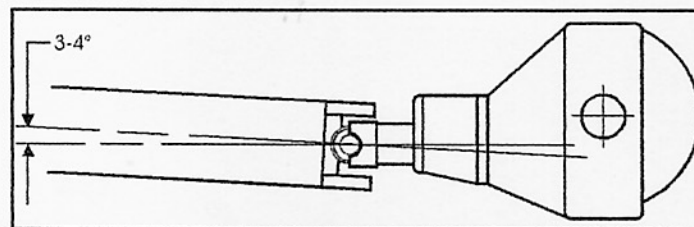

Figure 3
22...Adjust the both lower 4-link bars to check and adjust the wheelbase for length and squareness. Use the driver side upper 4-link tube to adjust the pinion angle to 3-4° down compared to the drive-shaft. It may be necessary to check the wheelbase again after setting the pinion angle because one will affect the other. See Figure 3.